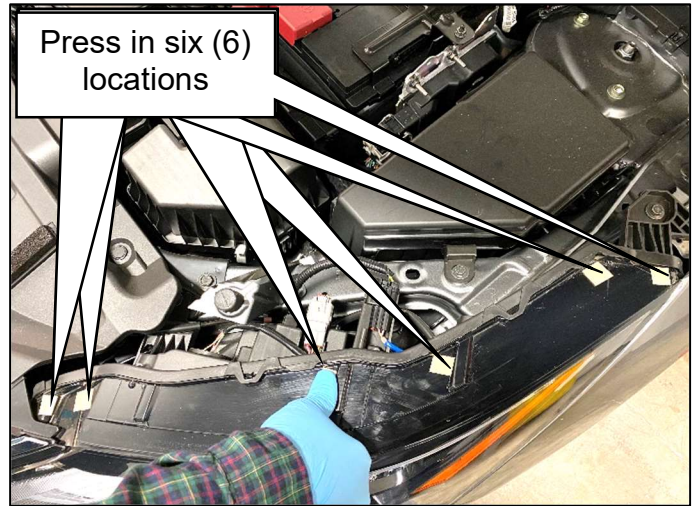

Figure 5
5. Using thumb, press down on the left front combination lamp.(Figure 5)
- Apply moderate thumb pressure in six (6) locations along the top of the combination lamp shown in figure 5.